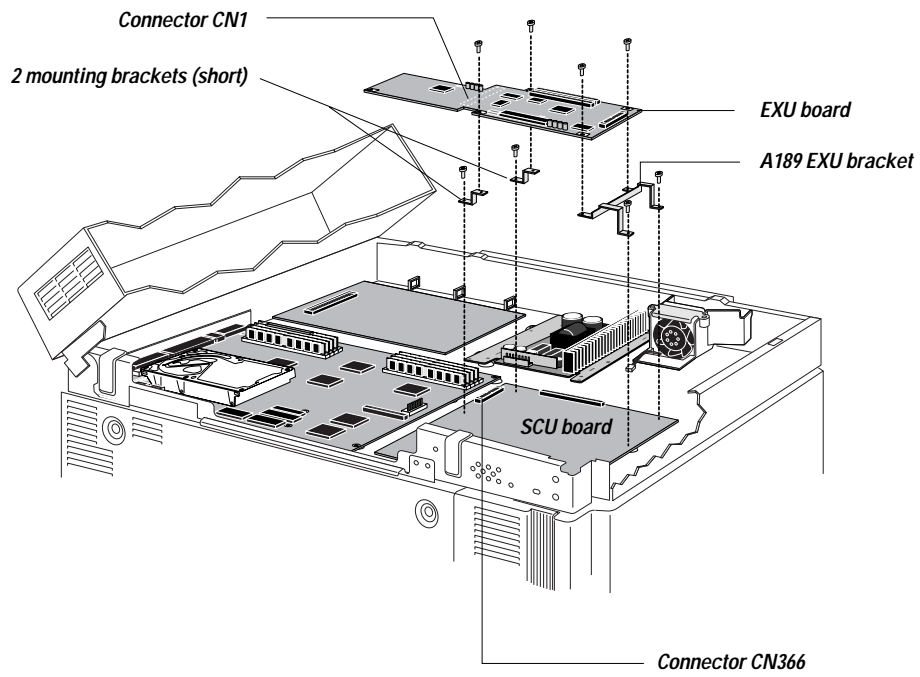

Figure 3-16 Installing the EXU and brackets
2. **Place the A189 EXU bracket as indicated in Figure 3-16 on page 3-18.**
This kit contains two short brackets and one long bracket. The two short brackets must be installed as indicated in Figure 3-16. The long bracket is not used in A189 installations.
6. **Insert four of the mounting screws (M3x5 Phillips pan-head) into the mounting holes on the EXU board (see Figure 3-16 on page 3-18).**